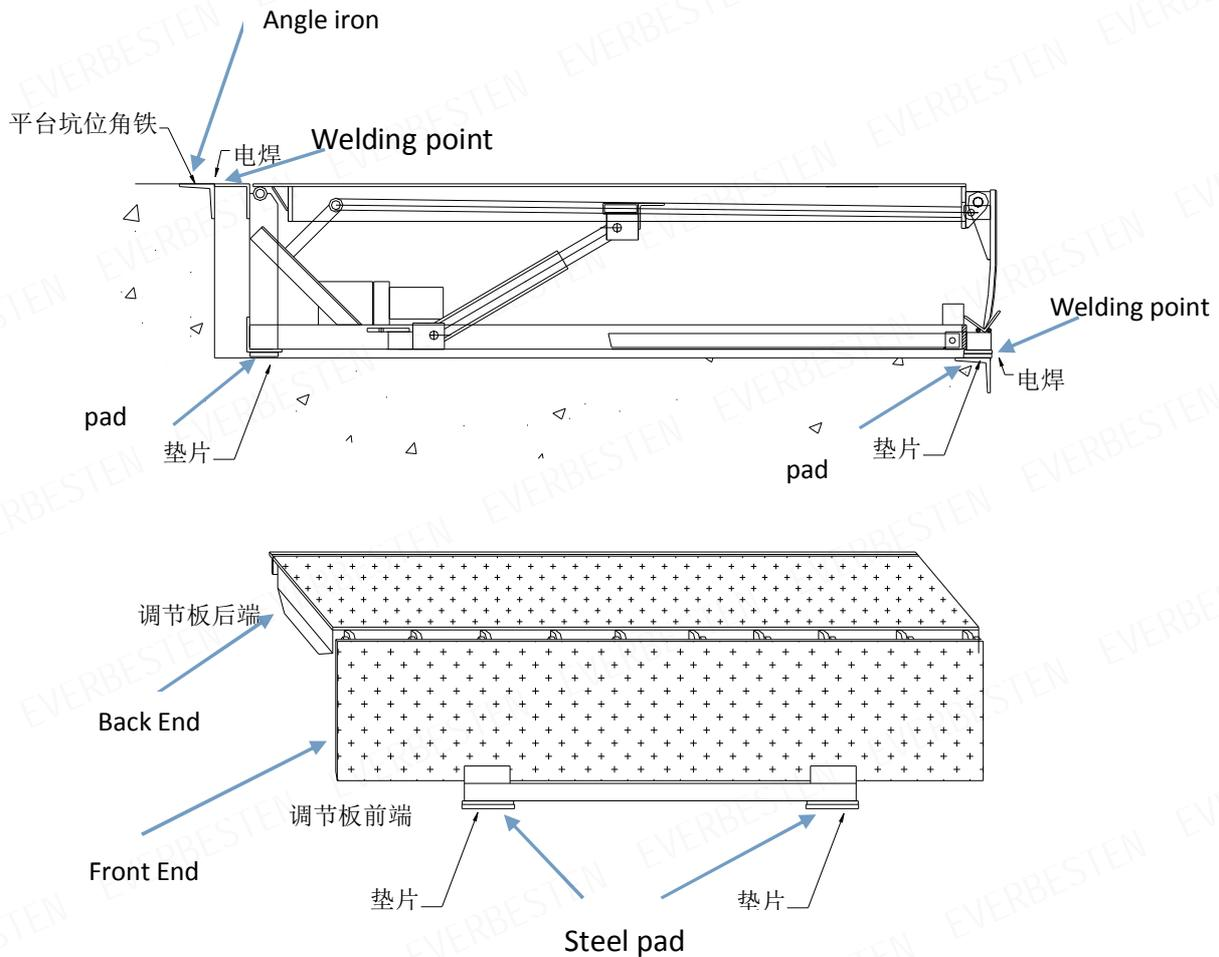

Figure-5
7. Weld the angle iron and Back End Pad together. Make sure of welding point firm and elegant. (Figure-5)